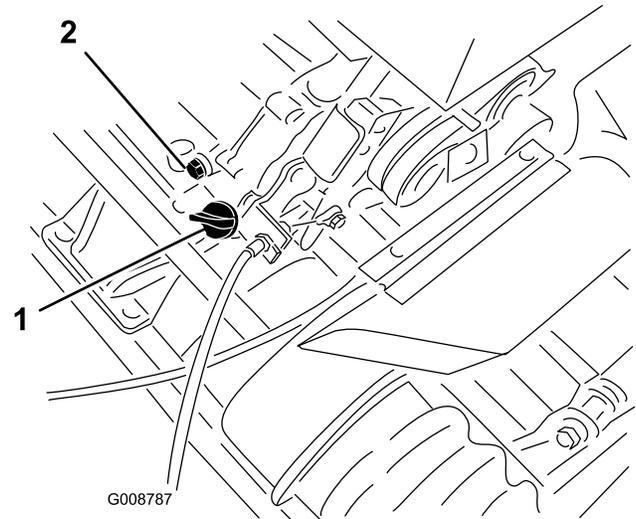

Figure 22
1. Position the machine so that the engine is level, and clean the area around the oil-level gauge (Figure 22).
2. Place a drain pan at the rear of machine, under the drain plug (Figure 22).